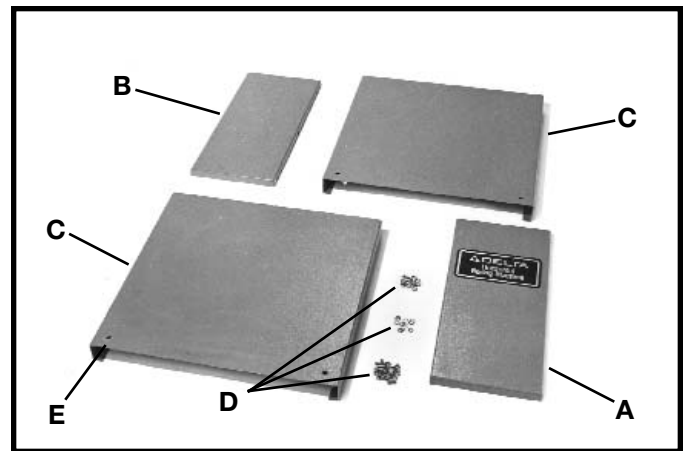

Fig. 2
1. Assemble front panel (A) Fig. 2, and rear panel (B) to side panels (C) with eight 5/8 inch-long screws, lockwashers and hex nuts (D). **NOTE:** Holes (E) Fig. 2, in side panels (C) should be at the bottom of the stand during assembly.